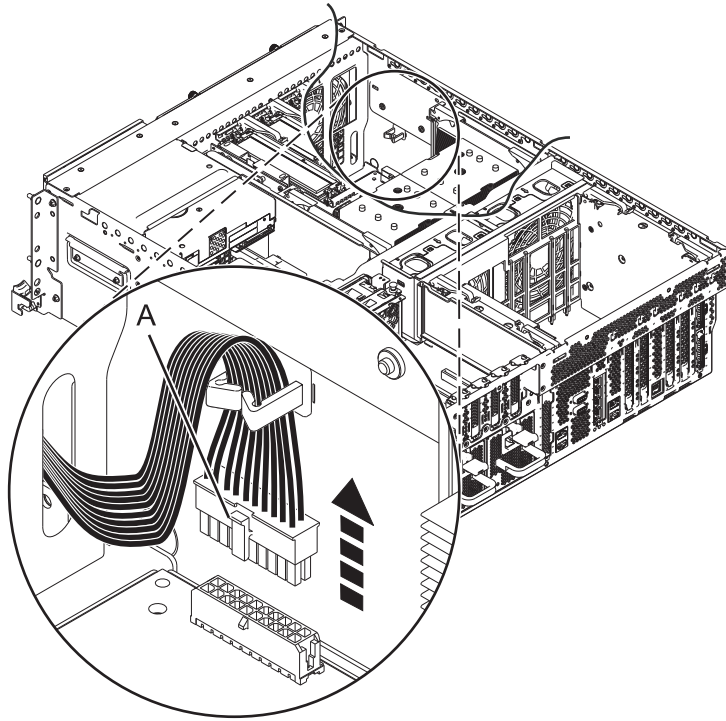

Figure 8. Disconnecting the front fan cable
30. Disconnect the front fan cable. See Figure 8 on page 13.